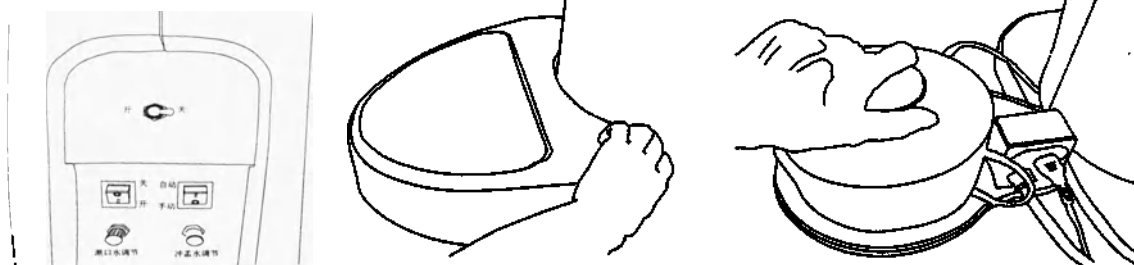

Figure 4-11 Filling for water
4.1.8.2.2 Move away the decoration cover of the bottle, turn off the air switch, turn clockwise to screw tightly the lid when filling full with water, then turn on the air switch. See figure 4-11